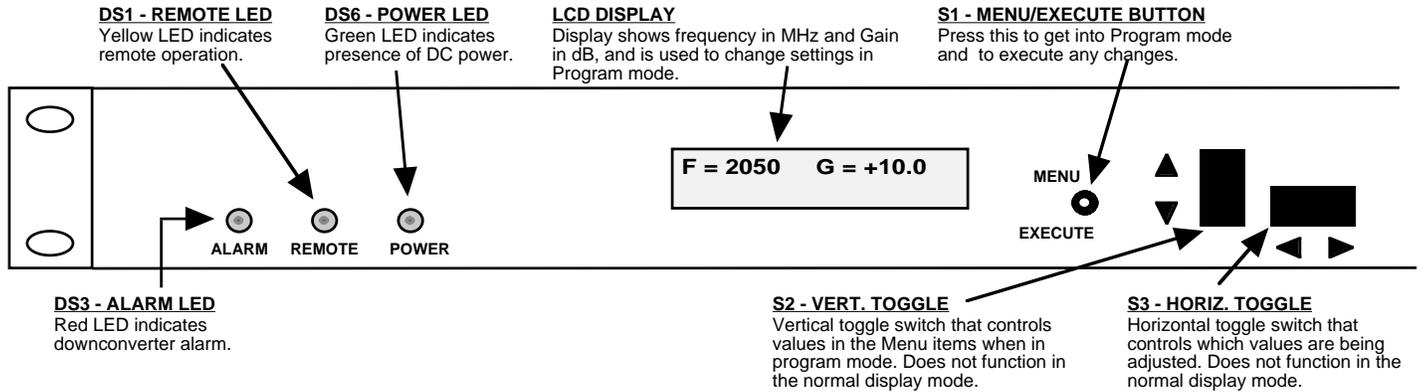

FIGURE 2.3 2016-26 Front Panel Controls and Indicators
6. Be sure DS6 (green, DC Power) is on and DS2 (red, Alarm) is off (Figure 2.3).
7. **AC Fuse** - The fuse is a 5 mm X 20 mm, 2 amp slow blow (Type T) and is inserted in the far slot in the drawer below the AC input as shown in Figure 2.3. There is a spare fuse in the near slot. If a fuse continues to open, the power supply is most likely defective.